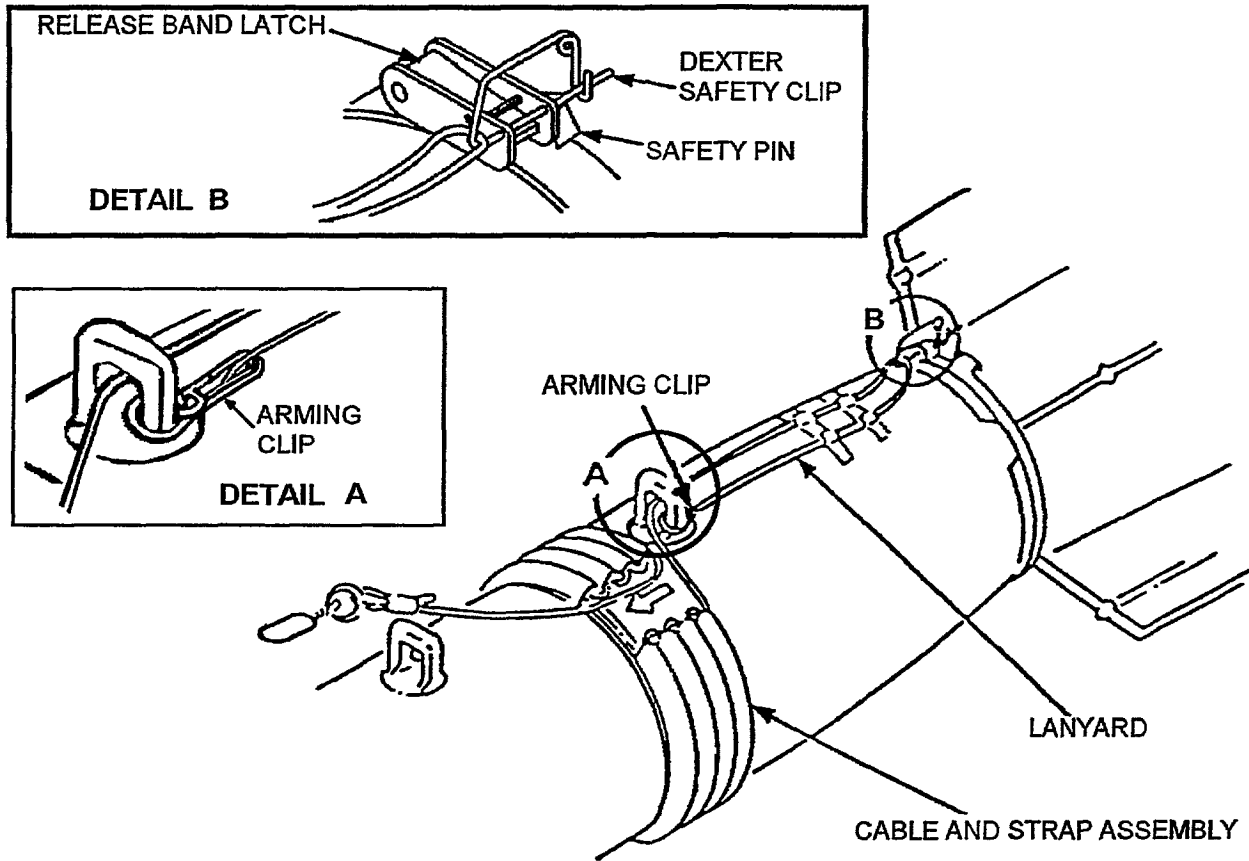

Figure 4-9G. Cable and Strap Assembly Installation (P-3 Aircraft)
- (1) Cut cable and strap assembly along dotted line marked "CUT FOR MK 82."
- (2) Position cable and strap assembly on bomb in front of aft suspension lug, with arrow pointing forward and to the left of lug about 1 inch (Figure 4-9G).
- (3) Pass pad end of strap assembly through tension buckle, pull tight to bomb, and secure by pressing fastener (Velcro) pads together. Pads must be tight to ensure strap assembly cannot move.
- (4) Pass the arming clip of the cable and strap assembly through a safety clip (Figure 4-9G).
- (5) Pass the safety clip through the aft suspension lug. Loop the cable and strap assembly arming clip around the aft suspension lug. Secure lanyard by attaching the arming clip to the lanyard. Wrap arming clip with three turns of pressure sensitive tape or tie down strap; cut off excess tie down strap.
- (6) While pulling lanyard from cable and strap assembly, install the safety clip through the two inside holes in the release band latch; then close the clip.
- (7) Pull on lanyard to make it taut. Secure lanyard to bomb with two or three 4-inch lengths of pressure sensitive tape, extending the tape at least 2 inches on both sides of the lanyard (Figure 4-9G).